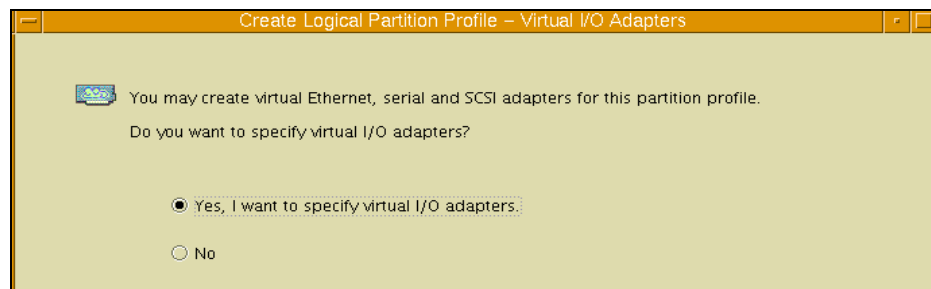

Figure 4-19 Create Virtual SCSI and Ethernet
1. Open the VIO server's profile. Perform the Virtual SCSI and Ethernet creation as shown in Figure 4-19 on page 376.